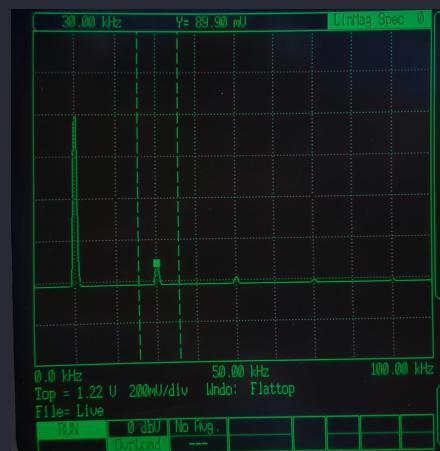

Figure 0.9: SR770 FFT Network Analyzer view
- Triangle Wave: (TRIANGLE waveform on 33500B) The triangle wave is a sum of all odd harmonics of the fundamental frequency as shown in Fig. 0.9. But the amplitude of the harmonics decreases